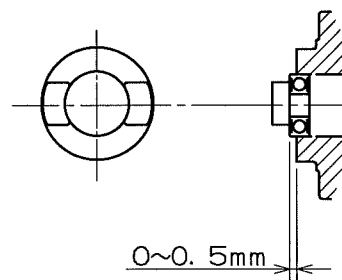

Fig.18
- ① Install Ball bearings(12),(15) onto Chain wheel(14).
Set up Ball bearing(15) to protrude 0~0.5 mm from the non-jut end face of Chain wheel as shown in Fig. 18.
- ② Install Retaining ring(11) in Casing(1).
- ③ Install Chain guide(13) in Casing(1), then install Chain wheel(14) from the gear side.
- ④ In case Lock screw(21) has not been removed: